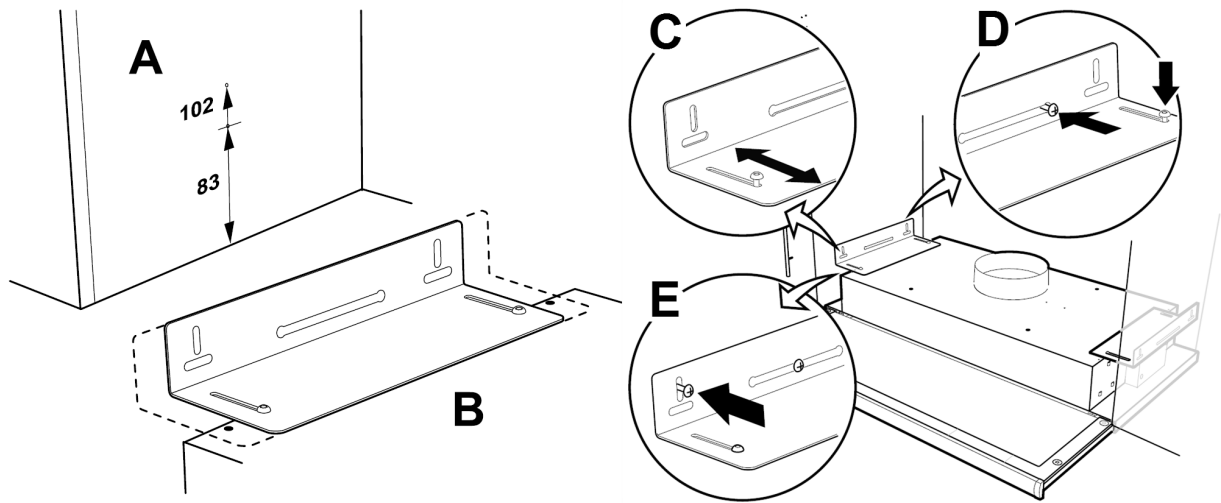

Fig. 10 Installation using brackets
Mark out and fasten screws so that they protrude a few millimetres from both cupboard sides (figure 10, pos. A). If it is intended to align the underside of the cooker hood with the underside of the row of cupboards, use the upper measurement 102; see figure 10, pos. A. The cooker hood brackets are adjustable to fit various cupboard depths (figure 10, pos. B).
2. Move the cooker hood brackets without fully tightening the screws and adjust the brackets so that they fit the sides of the cupboards (figure 10, pos. C). Hang the cooker hood in the pre-installed screws in the side of the cupboard. Tighten the screws in the bracket and on the wall (figure 10, pos. D). Lock the brackets into position using the locking screws (figure 10, pos. E).